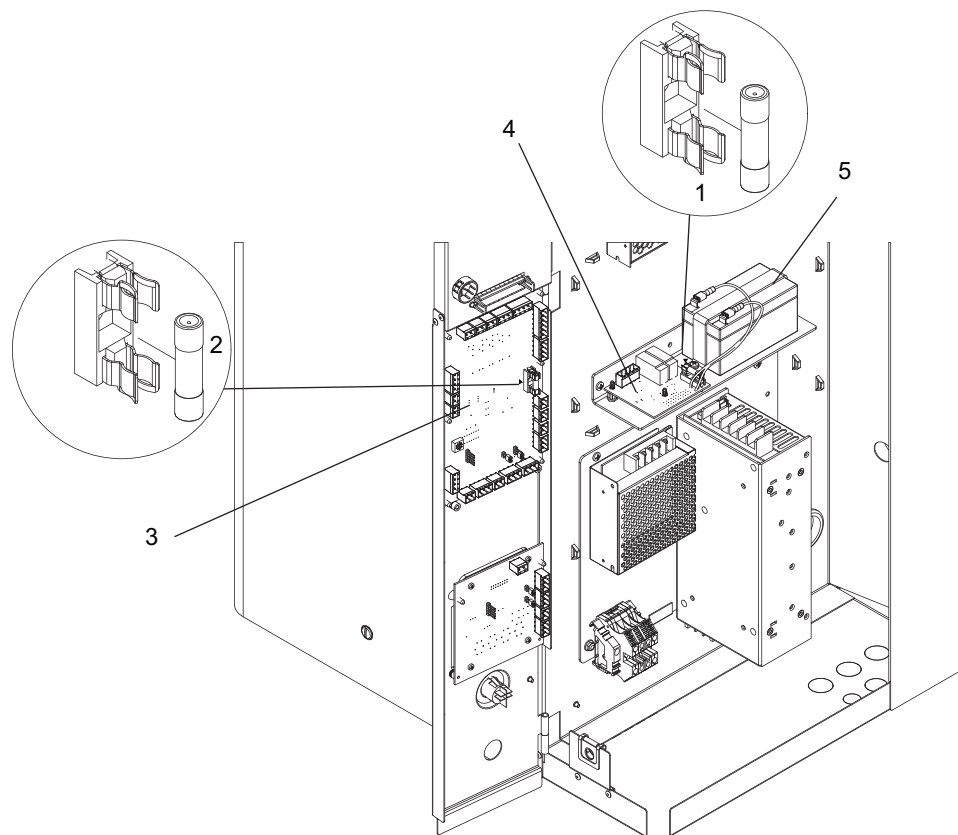

Figure 24 - Driver Board and Backup Battery Fuse Replacement
Replace the backup battery fuse and the driver board fuse as follows. Refer to Figure 24 - on the next page.
3. Replace the battery located on the backup board with a new one. Refer to Figure 24 - on page 54.